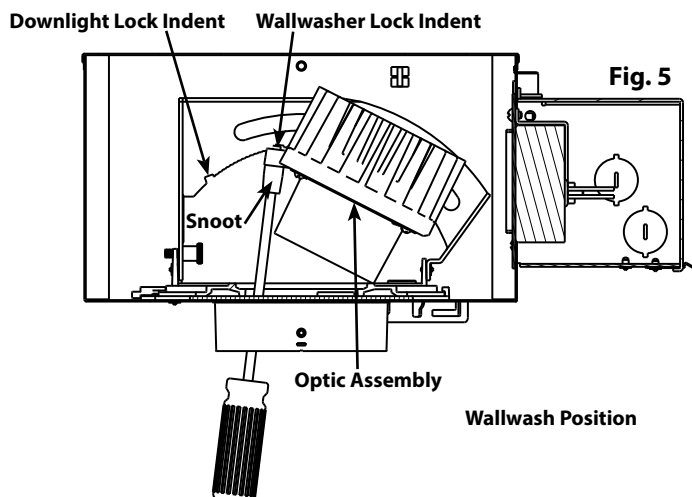

Fig. 5
2. To set in **Wallwasher Position (Fig. 5)**, locate **Optic Assembly** over yellow highlighted indent and lock into place